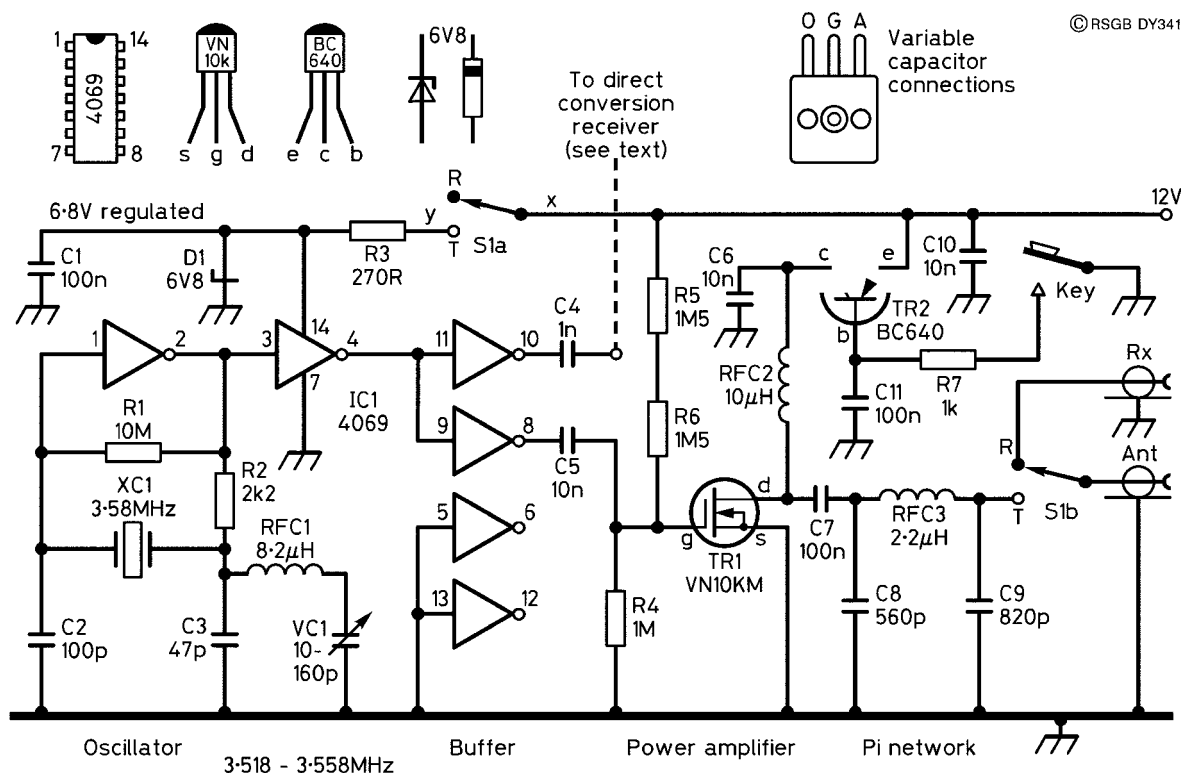

Figure 2 Circuit diagram of 80 metre transmitter
Figure 2 shows the transmitter circuit diagram. An unusual aspect of this transmitter is the use of a digital CMOS integrated circuit (IC) type 4069 for the buffer and oscillator stages. The IC houses six inverters, four of which are used in the circuit. One is used as the oscillator, two are used for the buffer stage, and the fourth provides an output for a direct-conversion receiver, should one be added at a later date.